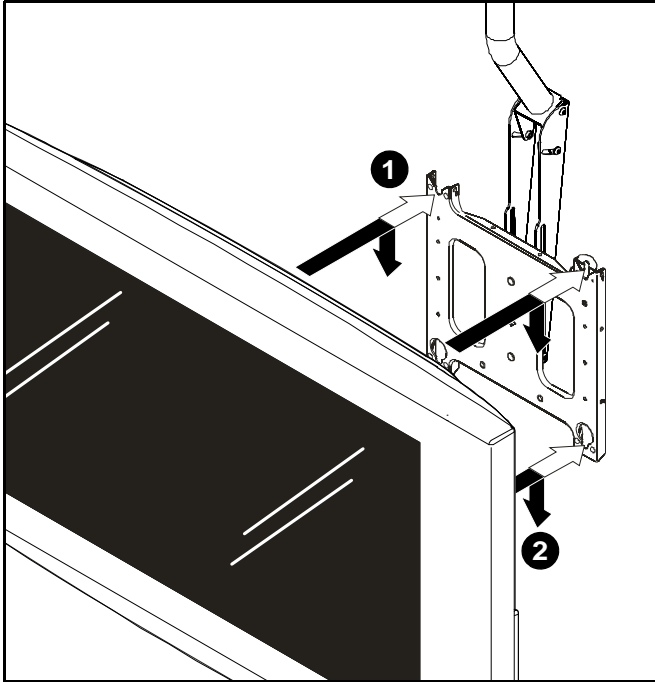

Figure 5
1. While supporting both sides of display, align four mounting buttons on display or interface bracket with four mounting holes in faceplate. (See Figure 5)